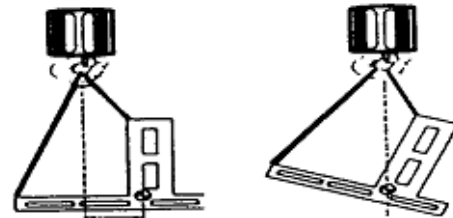

Figure 12.3: Rig load over center of gravity or load will shift when hoisted
- The load must be rigged over the center of gravity (placing it directly below the load hook) or the load will shift when hoisted (Figure 12.3).